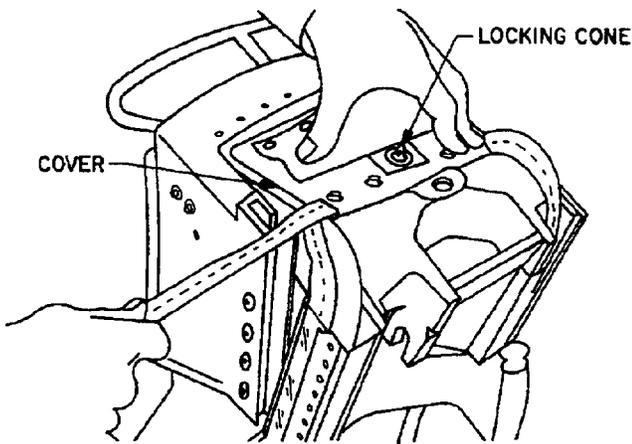

Figure 8. Route Drogue Gun Withdrawal Line
j. Route drogue gun withdrawal line out left rear corner of container. Close drogue container cover over locking cone. Ensure that drogue gun withdrawal line passes thru slot in left rear corner of cover (Figure 8).